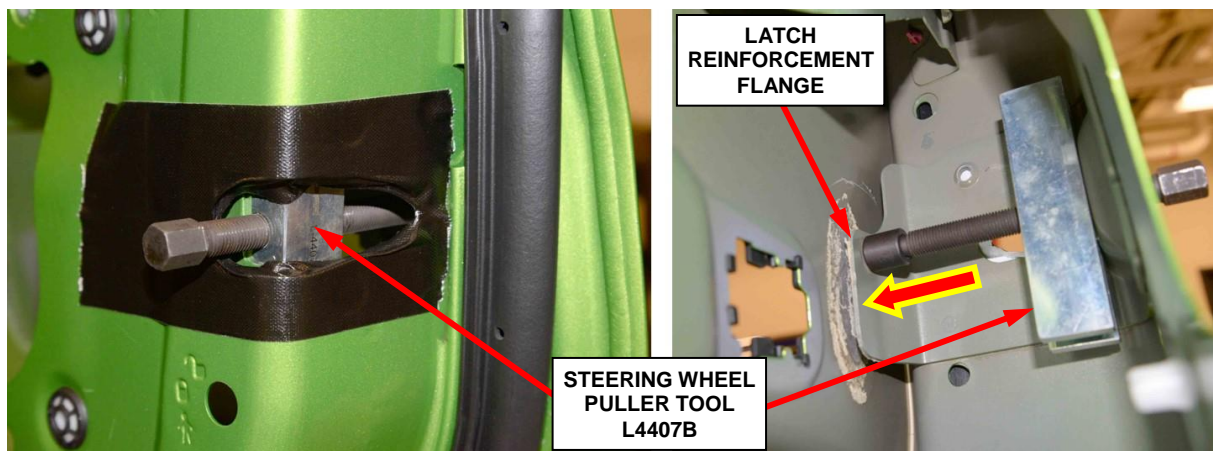

Figure 26 – Bend the Latch Reinforcement Flange Toward the Door Skin
42. Install Steering Wheel Puller L4407B in the door pressing against the latch reinforcement flange as shown in (Figure 26).